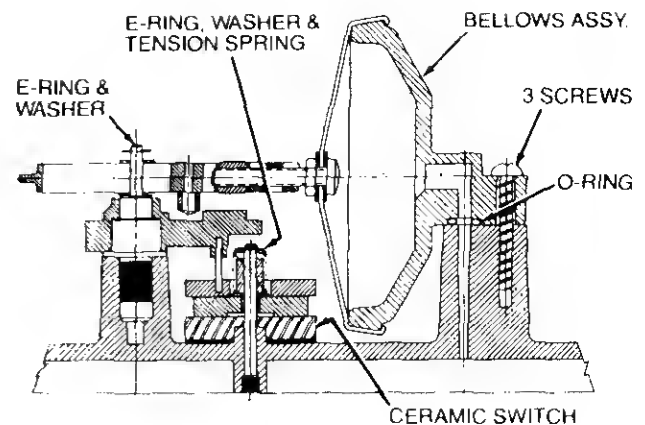

FIGURE 14
10.3.1 The timing motor sub-assembly (Fig. 14) is not in the patient drainage flow path. Under most circumstances, even if the unit has been clogged with contaminant, it is unnecessary to clean the Timing Motor. The flushing procedure, shown in sec. 10.10, will alleviate most clogs.
10.3.2 If replacement is needed, remove "E" ring and washer and two springs. Remove three screws holding time motor housing to base (Fig. 14).
A persistent clog may occur in the ceramic switch valve (Fig. 14). If this is suspected, remove the "E" ring, washer and tension spring to inspect the valve. Make sure both surfaces and all air flow openings are entirely clear of contaminant. Wipe contacting surfaces of ceramic valve with isopropyl alcohol before reassembly. Replace ceramic switch in its original position with tension spring, washer and "E" ring. Test for function per section 5.0.